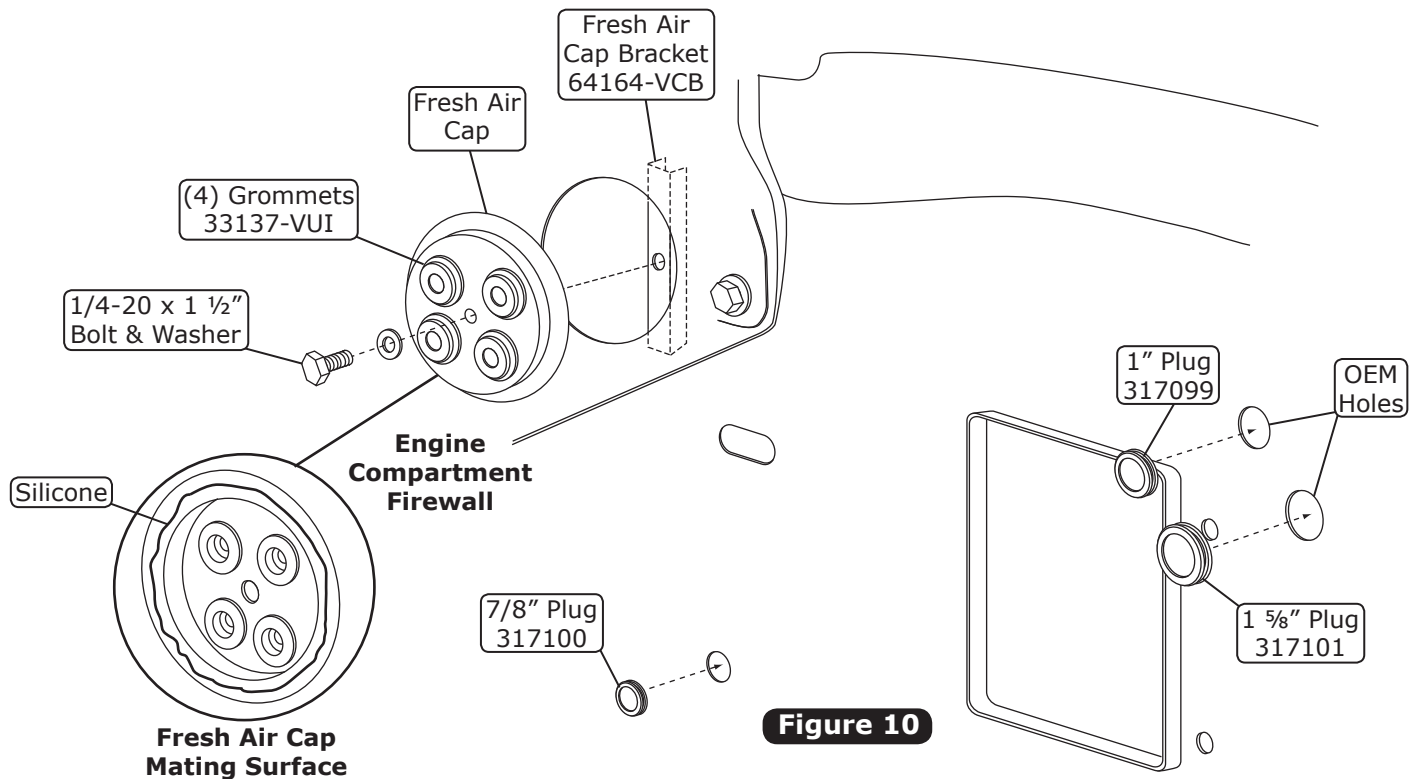

Figure 10
1. Install (4) grommets in the fresh air cap as shown in Figure 10, below.
2. Apply a 1/4" bead of silicone around the mating surface of the fresh air cap as shown in Figure 10, below.
3. Attach the fresh air cap to the firewall using the fresh air cap bracket, a 1/4-20 x 1 1/2" bolt, and a washer as shown in Figure 10, below. **NOTE: The fresh air cap installs on the engine side of the firewall.**
4. Install plugs into the firewall as shown in Figure 10, below.